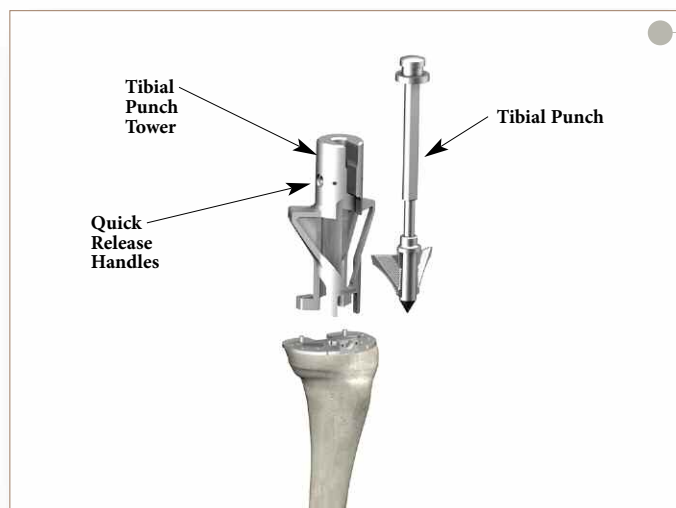

Figure 77
- Fit the appropriate Tibial Punch into the Tibial Punch Tower (**Figure 77**). See Appendix 1 - Baseplate Preparation Table. Handles may be assembled to the tower to aid in maintaining position and stability of the tower/baseplate assembly during punching. A mallet may be used to impact the punch.